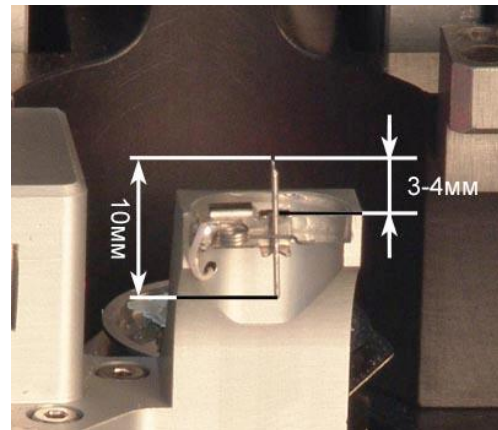

Fig. 6-26
3. Insert the tip's blunt end into the holder so that the sharpened end projects beyond the edge of the holder to distance of less 3÷4 mm (see Fig. 6-26).